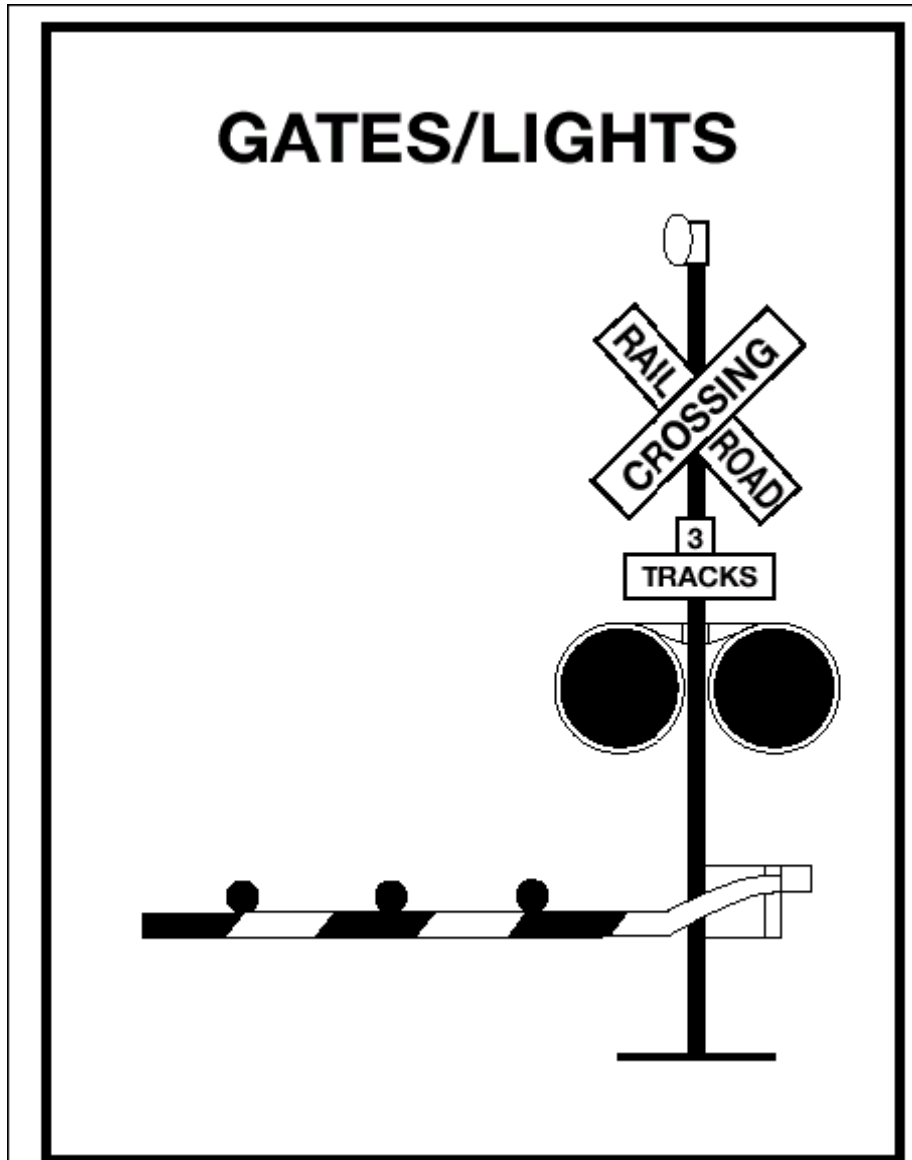

Figure 10.8
required to yield the right-of-way to the train. If there is more than one track, make sure all tracks are clear before crossing. If the gate stays down after the train passes, do not drive around the gate. Instead, call your dispatcher. See Figure 10.8.
**Gates.** Many railroad-highway crossings have gates with flashing red lights and bells. Remember that buses are required to stop at all Rail Road crossing. Remain stopped until the gates go up and the lights have stopped flashing. Proceed when it is safe. If the gate stays down after the train passes, do not drive around the gate. Instead, call your dispatcher. See Figure 10.8.